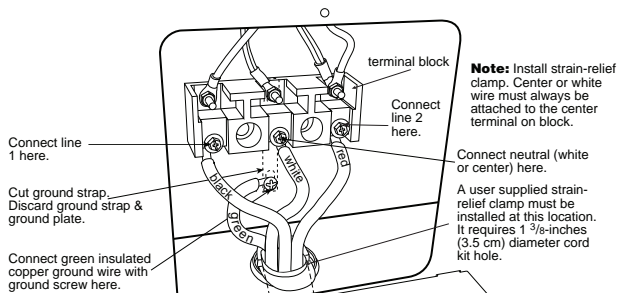

Figure 8
4-WIRE CONNECTION INSTRUCTIONS-FIGURE 8
- 4 Connect the green ground wire lead with the eyelet to the frame of the range with the ground screw using the same hole in the frame where the ground screw was originally installed. See Figure 8.